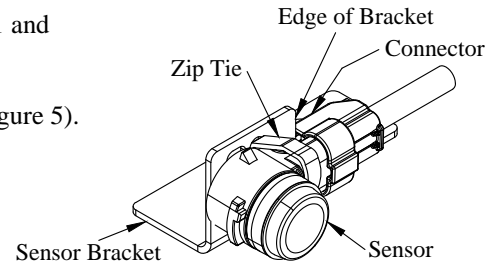
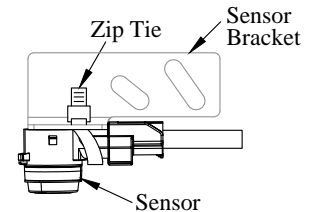

Figure 6: Orientation of sensor in bracket.
Figure 7: Top view of sensor in bracket.
9. **Position** sensors into brackets and fix in position using zip ties. Be sure connector hangs over edge of bracket, allowing the back of the sensor to be flat against the bracket (Figure 6 and Figure 7).